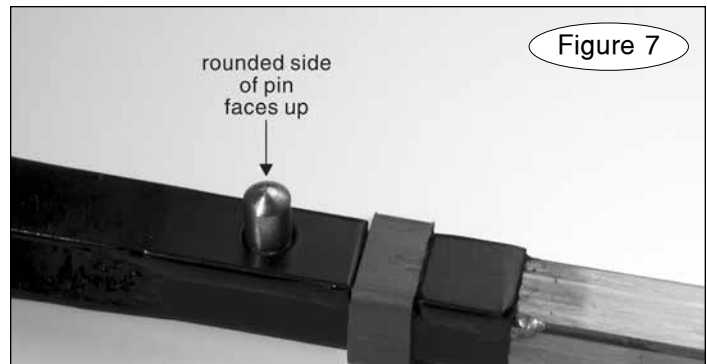

Figure 7
8. Lubricate the bottom of one of the new pins (Figure 4) thoroughly. As before, use a dry silicone aerosol. Then, position the new pin, rounded side up (Figure 7), on the new spring.